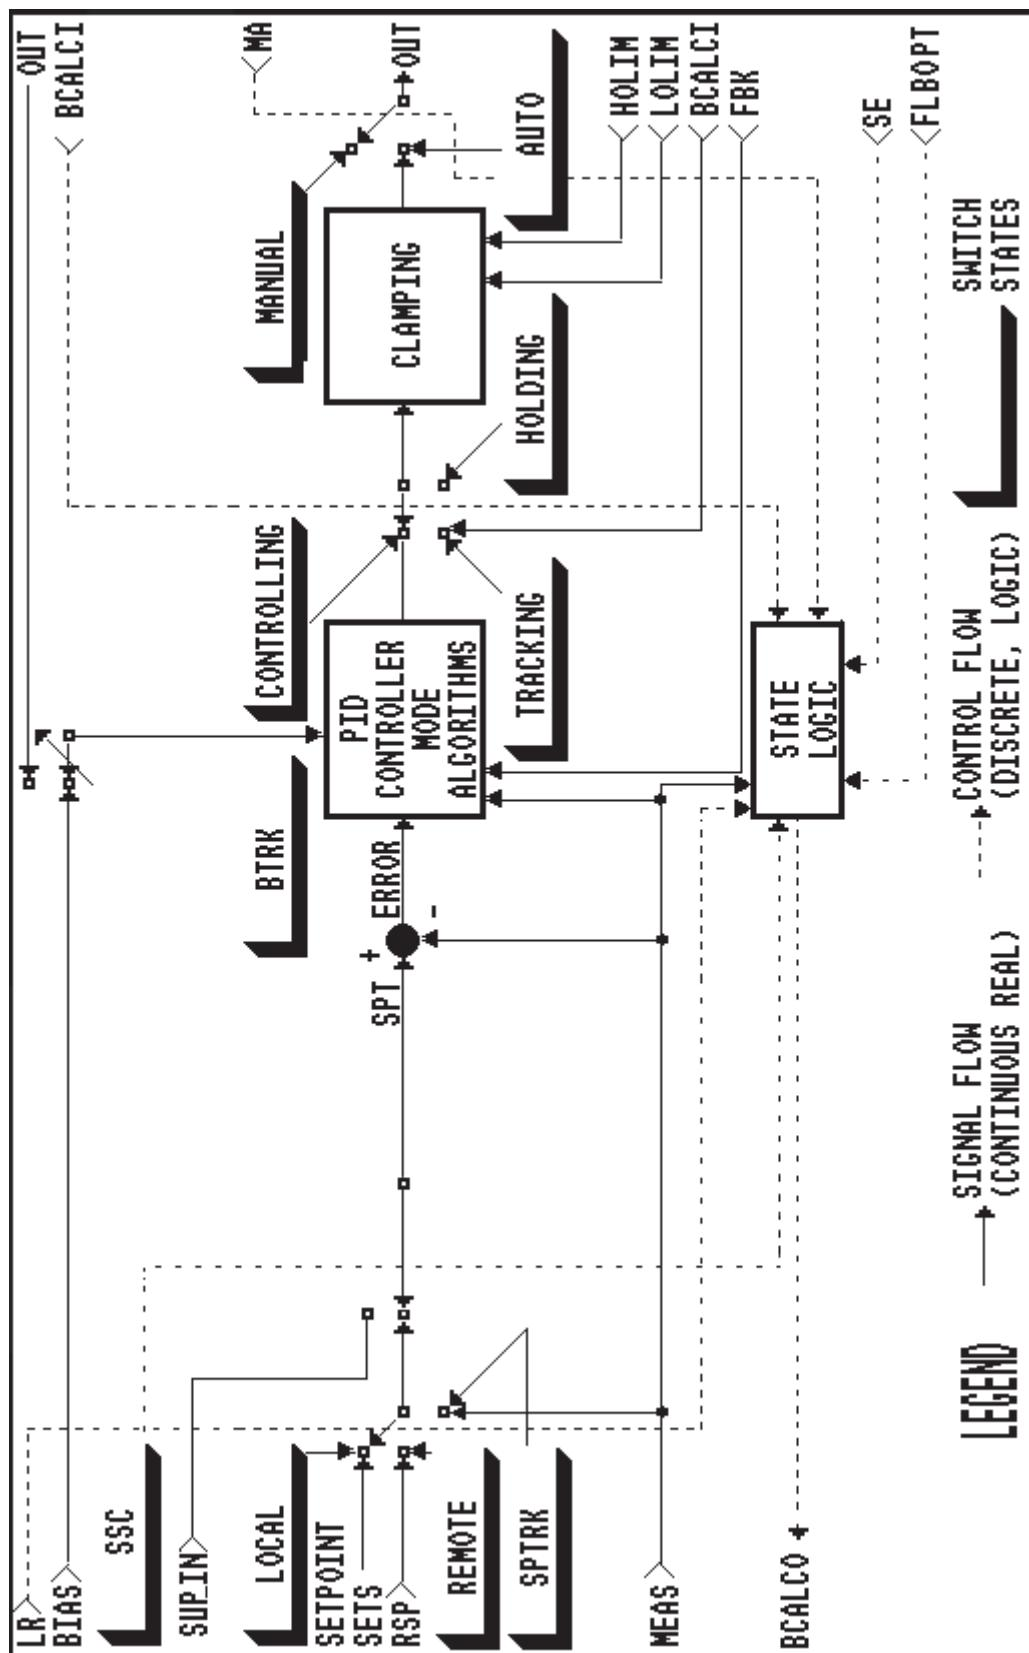

Figure 98-2. PID Simplified Signal Flow Diagram
- ◆ Setpoint Tracking Option (STRKOP) forces the setpoint to track the Measurement input. See Figure 98-2. STRKOP takes this action when the LR parameter has transitioned in either direction and 1) either the output is in Manual or a cascade is broken (a downstream block is in open loop - INITI true) or the block is in Manual, or 2) when the block is in Manual only. The block does not perform STRKOP if any critical data errors are detected.
- ◆ Bias Track Option (BTRKOP), when true, forces the algorithm's output Bias to track the block output (OUT) provided the block is in Manual and the mode is P or PD. See Figure 98-2. BTRKOP is a boolean input that you can change only by reconfiguring the block.